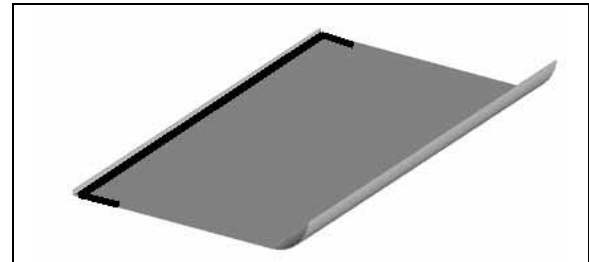
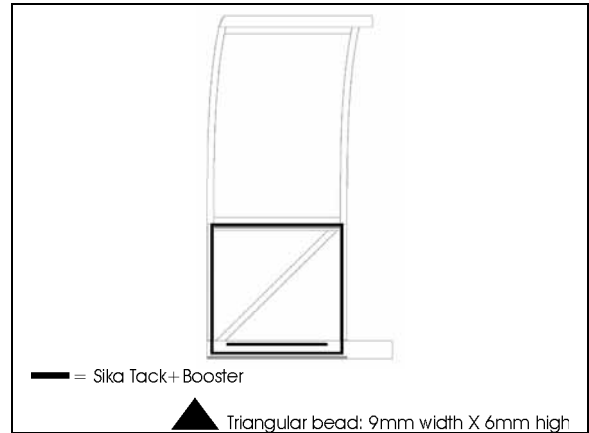
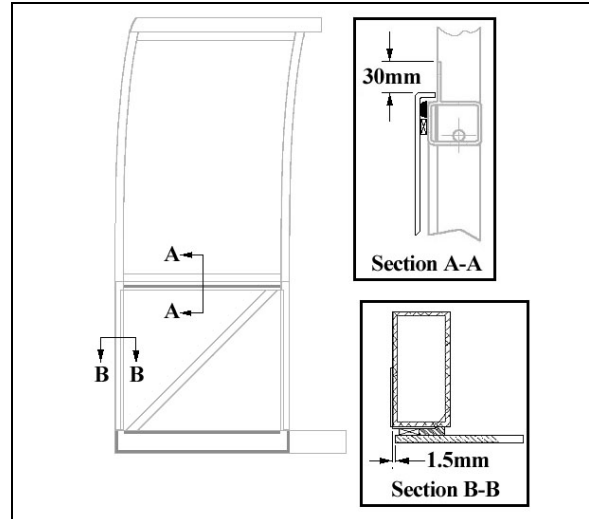

FIGURE 46 : SIDE PANEL INSTALLATION – SIKA 221 OR 252 APPLICATION ON SIDE PANEL
FIGURE 47 : SIDE PANEL INSTALLATION – SIKA TACK+BOOSTER APPLICATION
FIGURE 48 : SIDE PANEL INSTALLATION
- Apply a 5mm diameter bead of Sika 221 or 252 on side panel as shown on FIGURE 46; Apply Sika Tack+Booster (triangular bead: 9mm width X 6mm high [11/32"x1/4"]) as shown in Figure 47 and glue panel in place as shown in FIGURE 48. Do not remove the tape blue protective layer;